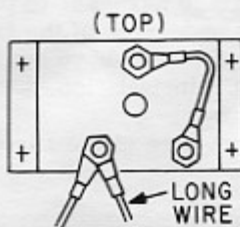

Fig. 5 Power Disconnect - Rear View
11. Thread the long wire through the undercarriage harness tubing into the lower control cabinet and connect it to the rear of the Power Disconnect Switch with existing wires numbered "2" as shown in Fig. 5. Dress the wire into the harness, using the wire ties provided, and keep the wires clear of the steering gear.
8. Connect the long wire from the receptacle to the rear of the Power Disconnect Switch with existing wires numbered "2" as shown in Fig. 5.